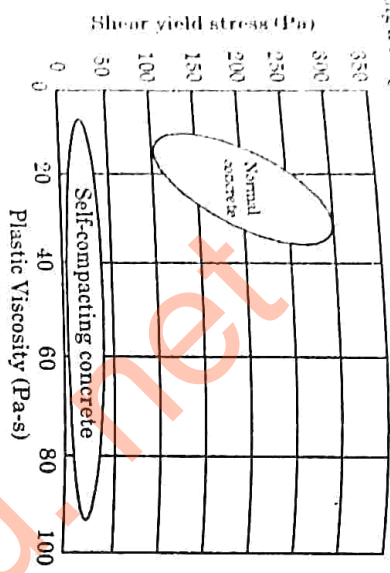

Fig. 3.12.3. Rheological properties of normal and self-compacting concretes.
3. Rheological Properties of self-compacting concrete is in the range of 0.5g Pa whereas for normal concrete it is high in the range of 100-300 Pa as shown in Fig. 3.12.3.